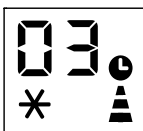

Fig 14
- Press several times until the corresponding time is displayed. Wait about 5 seconds, the timer will be active, then only the symbol is displayed on screen.(fig 14)